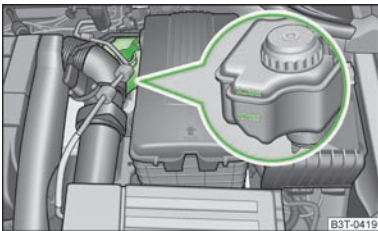

Fig. 163
- Check the level of brake fluid in the reservoir » Fig. 163. The level must be between the "MIN" and "MAX" markings.